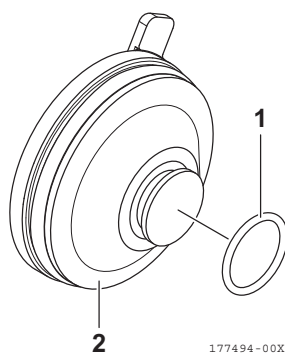

Figure 14
5. Retirez le joint torique (1, **Figure 14**) du couvercle (2, **Figure 14**).